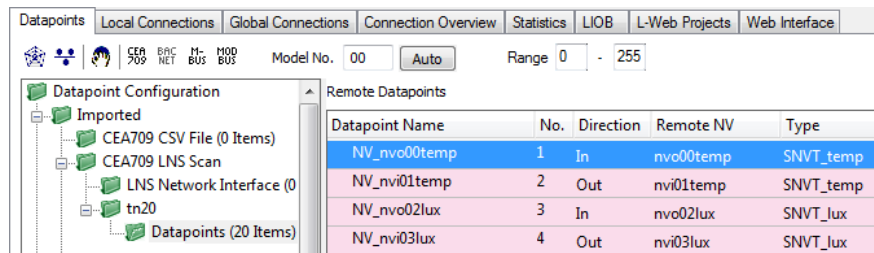

Figure 40: Result of an NV scan in LNS.
7. After the scan has completed, the folder **LNS Database Scan** is populated with the found NVs as shown in Figure 40.
11. The generated BACnet objects appear in the **Datapoints** folder under the **BACnet Port** folder as shown in Figure 40. These objects are also automatically connected to the respective NVs.